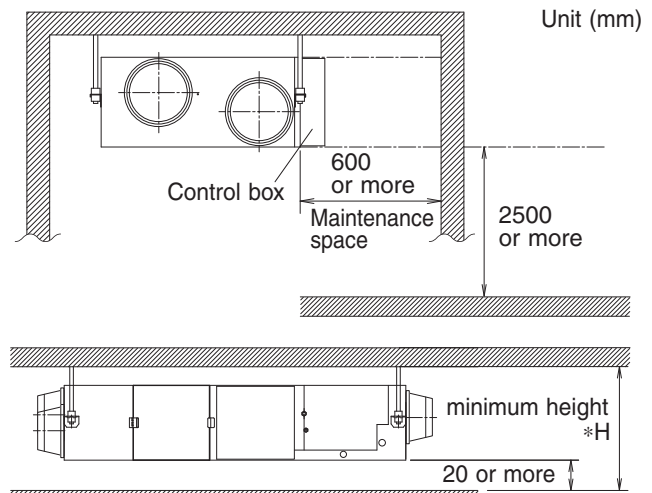

Fig. 1 Select the *H dimension such that a downward slope of at least 1/100 is ensured as indicated in "6 DRAIN PIPING AND WATER SUPPLY WORK".
(1) Select an installation site where the following conditions are fulfilled and that meets with your customer's approval.
- Where sufficient clearance for maintenance and service can be ensured. (Refer to Fig. 1)